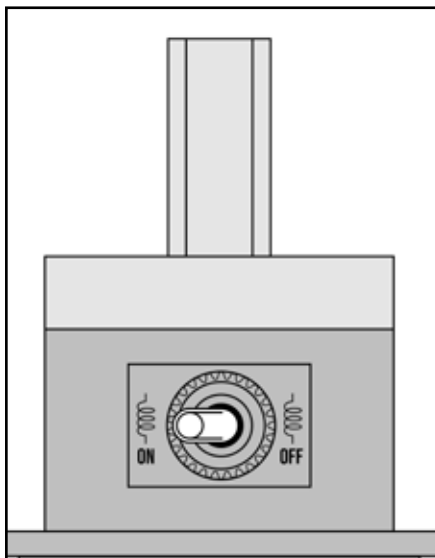
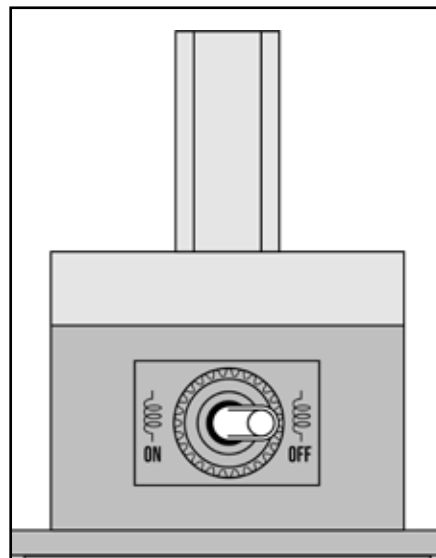

FIG. 1 - Place the loading coil switch to the "ON" position to engage the loading coil. This will tune the antenna to the 40M meter band.
FIG. 2 - Place the loading coil switch to the "OFF" position to disengage the loading coil. This will allow the antenna to tune 20 meters and up.
2. To operate the antenna on the 40 meter band, ensure the loading coil switch is set to "ON" (SEE FIG. 1). This activates the coil and sets the system into a loaded state. To operate on the 20 meter band and above set the loading coil switch to "OFF" (SEE FIG. 2)